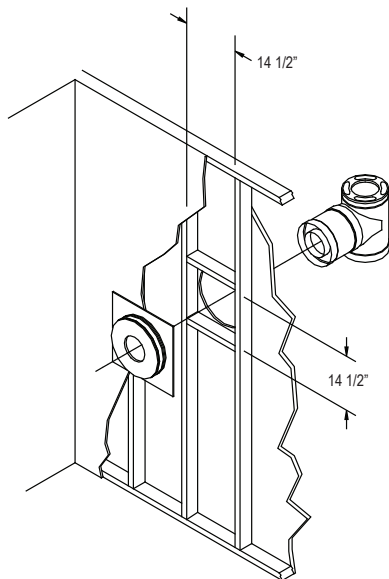

Figure 25
2. Cut and Frame Opening: Cut 14-1/4 inch diameter holes in the inner and outer walls. The center of these holes should be aligned with the center of the stove's flue outlet collar. For new construction, prior to sheetrock or other covering of the wall studs is applied, frame a square opening between the studs, as specified in Table 2. (**Figure 25**). Should it be necessary to go through concrete, masonry, or cinder-block, a 14-1/4 inch